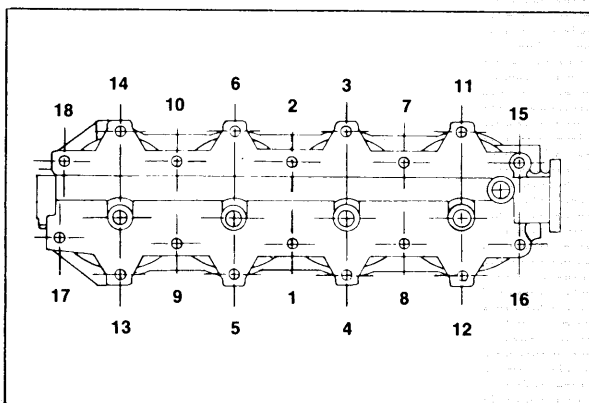

Figure 1—Torquing Sequence
- C. Install cylinder head and new head gasket on powerhead. Secure cylinder head and gasket to powerhead with head bolts and plain washers. First torque all cylinder head bolts to 75 In. Lbs. following torquing sequence as shown in figure 1. Then increase torque in increments of 50 in. lbs. to specified torque.
- B. Install four (4) screws and thermoswitch securing cylinder head cover to cylinder head.
- C. Install cylinder head gasket and cylinder head assembly on powerhead. Install eighteen (18) bolts and plain washers, torque all cylinder head bolts to 75 in. lbs. following torquing sequence shown in figure 1. Then increase torque in increments of 50 in. lbs. to specified torque.
- G. Install new gasket and thermostat cover on cylinder head and secure with four (4) screws.